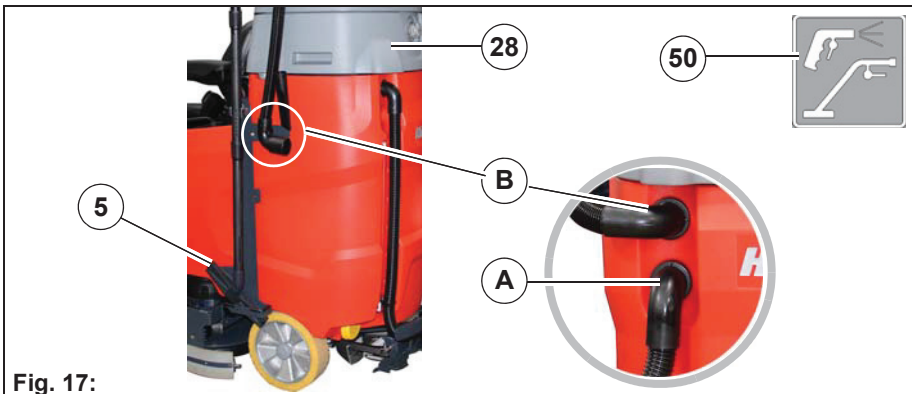

Fig. 17:
1. Reconnect the suction hose **Fig. 17-28** to park position **Fig. 17-A**.
2. Insert the hose of the tool into the opening of the vacuum system **Fig. 17-B**.